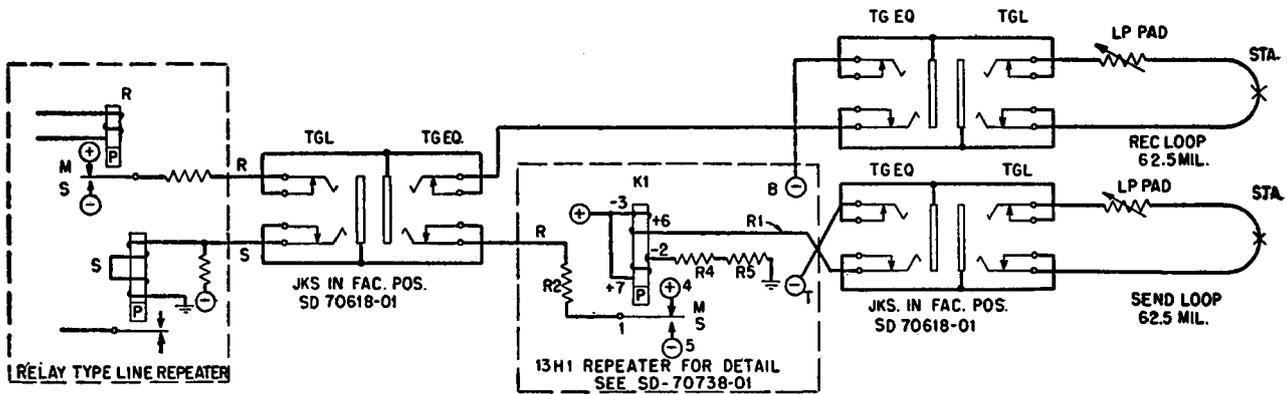

FIG. 3
2.10 Fig. 3 shows a typical full duplex circuit arrangement. It should be noted that the transmission path from the line repeater (R) relay to the receive loop does not involve the 13H1 repeater. Polar voltages are transmitted from the receive relay in the line repeater to the receive loop returning to -130-volt battery via the loop pad and jacks in the facility position.